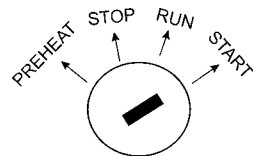

Figure 41. Engine Ignition Switch
9. Turn the key to "Run" position (Figure 41). The engine will start cranking.